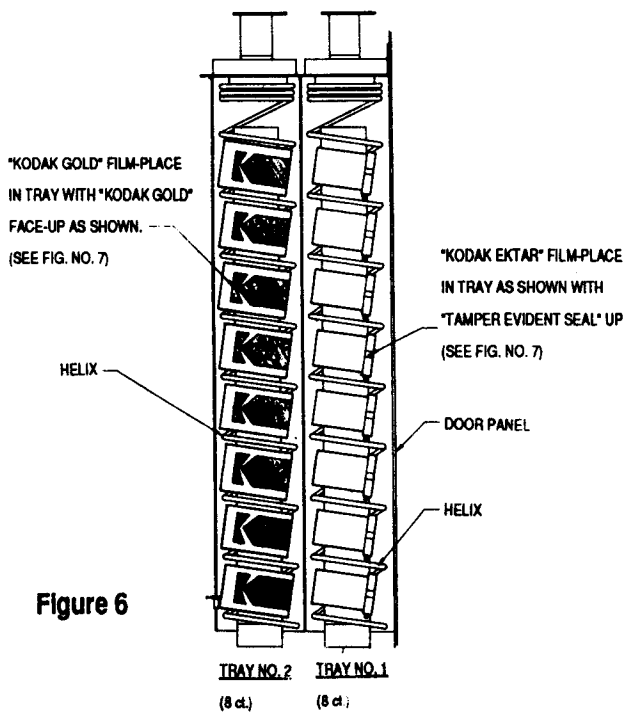

Figure 6
5. Load product into the appropriate helixes as illustrated in figs. 6 - 14.